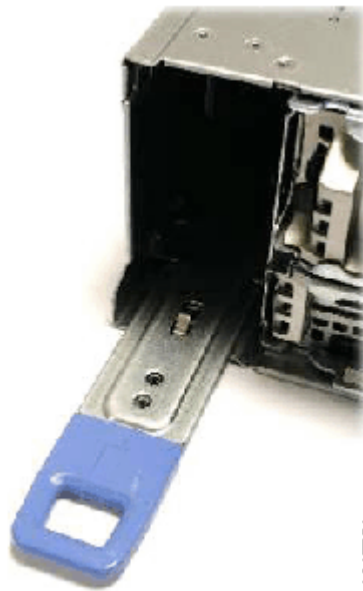

Figure 86. Sliding out the power interposer
2. Remove the power interposer by pulling on the blue handle that is located beneath the PSU slot. Figure 86 on page 141 shows an example.